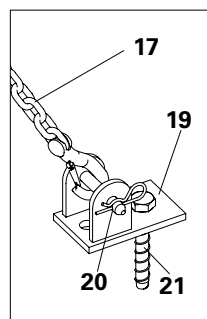

Fig. A10.11
1. Mount RS base plate (**19**) on the existing construction with the PERI anchor bolt 14/20 x 130 (**21**). Bracing angle 60°. (Fig. A10.11)